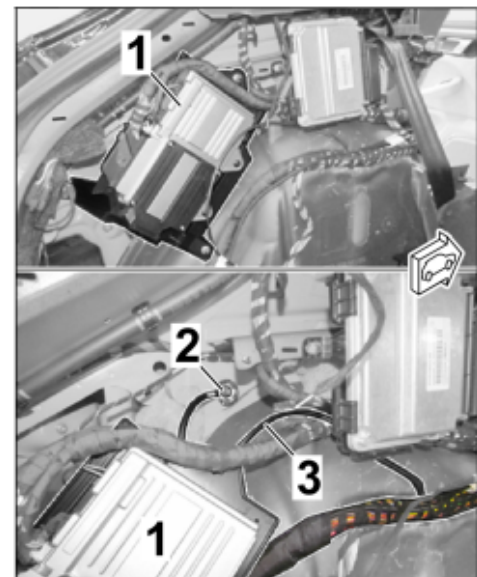

Figure 37
- 3.1.3 Install cable ring eyelet A6 (ground) on ground pin MB 43 (\Rightarrow Figure 37)